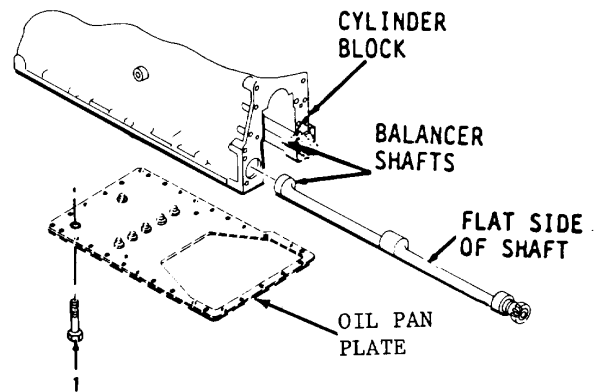

Figure 3-74.
13. Position new gasket (11) and bell (10) on oil pump (18).
14. Install lock (9) and two bolts (8). Bend lock (9) tabs up against bolt (8) heads.
16. Aline two balancer shafts on bottom of engine. Turn balancer shafts so that the flat sides of the shafts face the opposite direction of oil pan plate. Install two 3/8-16NC 1-1/2 inch long bolts (1, Figure 3-74) through oil pan plate and into each of the balancer shafts. Tighten the bolts until they touch the bottom of the holes of the balancer shafts, then loosen 1/2 turn.